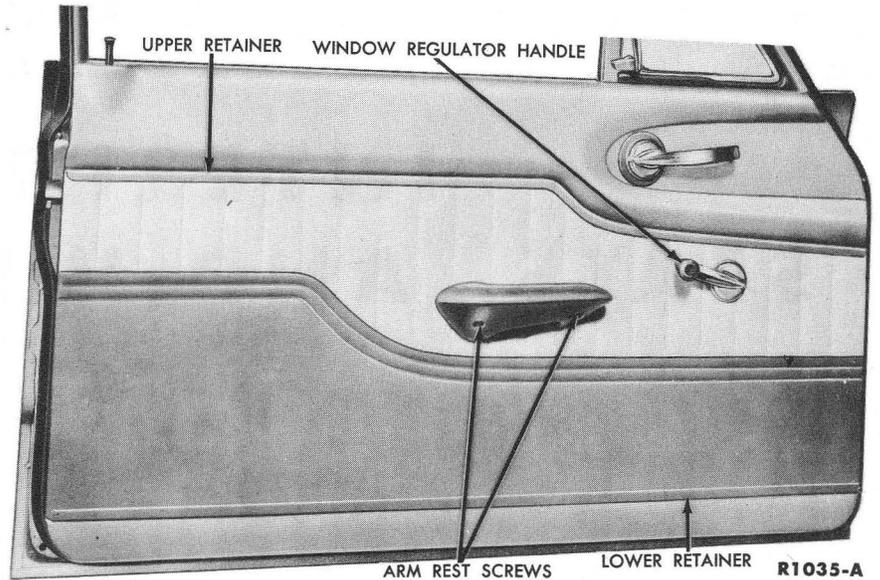

FIG. 2—Typical Door Trim
2. Remove any screws retaining the trim panel to the inner panel, such as the arm rest retaining screws (Fig. 2). To reveal the quarter panel arm rest forward retaining screw, slide the ash tray assembly forward.